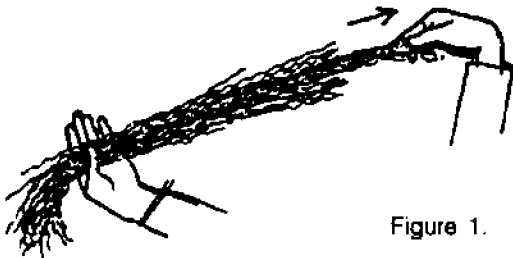

Figure 1.
6. Untwist another yarn and loosen all the fibers. Hold the whole bundle of fibers in one hand and with the other hand slowly pull a few fibers out of the bundle (Figure 1). Pay attention to how it feels to pull the fibers apart.